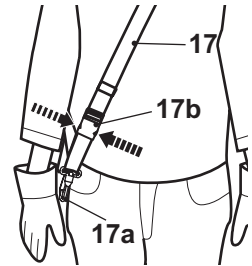

Fig. 8
**WARNING!** Always attach the product to the harness (17). Do not carry it only with your hands!
- In case of emergency hold the soft grip (9) of the front pole (8) with the left hand, and use the right hand to press two clips of the quick release (17b). The product together with the securing clip (17a) will be released automatically from the body because of the weight of the product (Fig. 8).